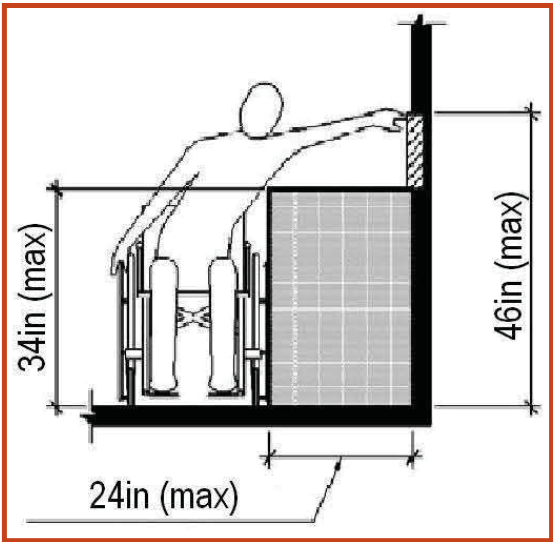

Figure 11 (ADAAG) High Side Reach
- If the pedestrian button requires a side reach, obstructions at bottom cannot extend more than 24 inches from base. For the height of button, refer to the standard plans (See Figure 11 below.)